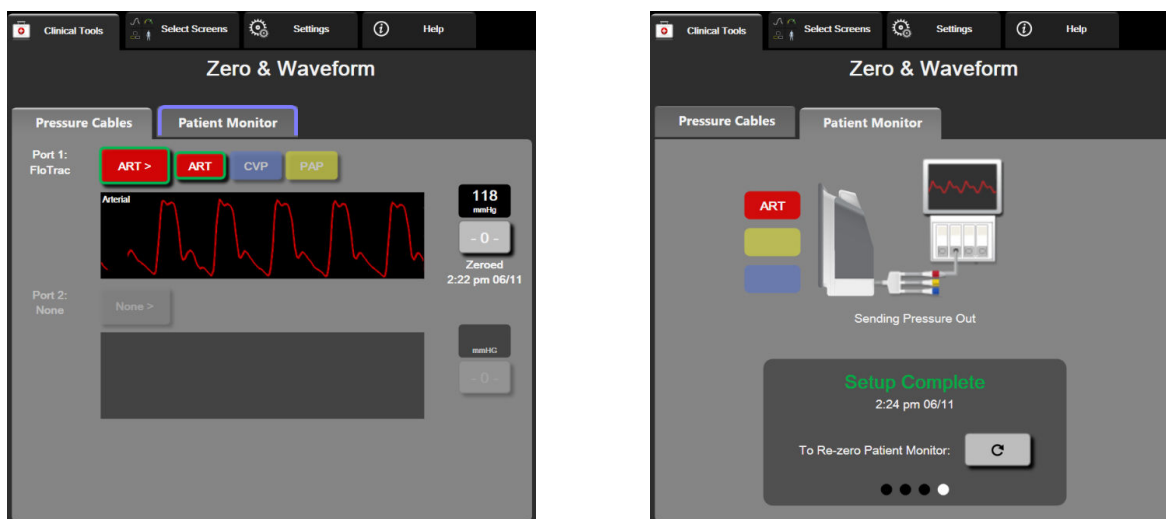

Figure 10-2: Zero & Waveform screens – Zero sensor and Pressure-Out
- Touch the **Transmit Waveform** icon  to begin pressure signal output to the patient monitor. A "Setup Complete" message will be displayed when the live waveform is being transmitted to the connected patient monitor. See right screen shown in Figure 10-2 on page 183.